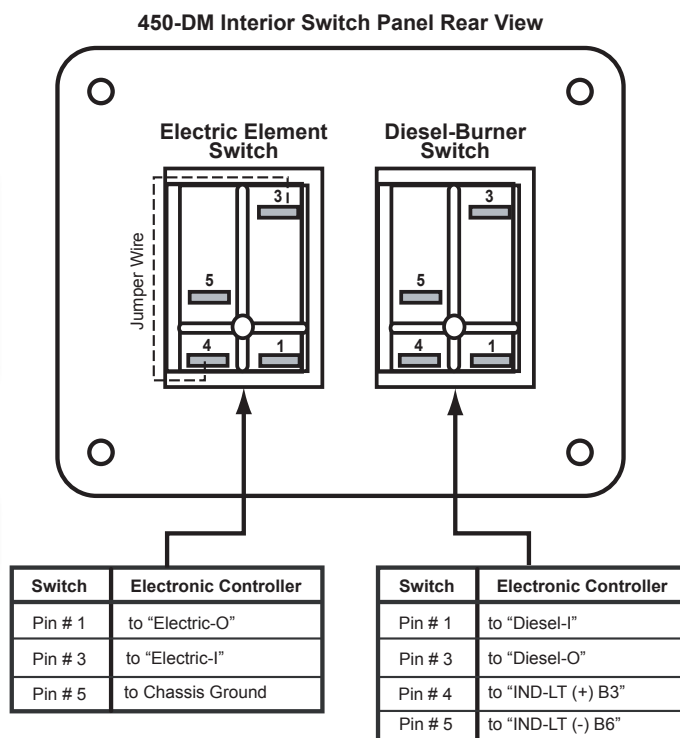

Figure 32
NOTE: Be sure to attach “Jumper Wires” where necessary. Reference Figures 32 and 33.
3. Connect all switch wires to the appropriate switch connections as illustrated in Figures 32 and 33. Reference Appendix A for additional wiring information.